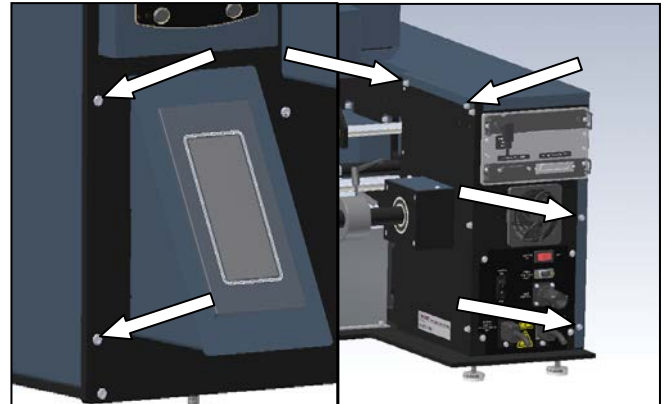

Figure 3-55. Frame Cover Screws
1. Remove the six screws holding the Frame Cover. Set screws and Frame Cover aside (Figure 3-55).